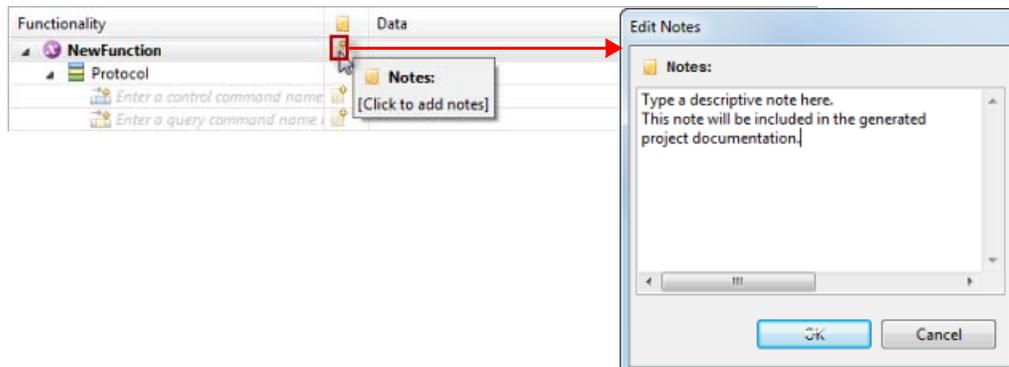

FIG. 74 New Function - Entering a descriptive Note
4. To add a note to describe the custom function, click on the *Notes:* icon to open the *Edit Notes* dialog. The note entered here will be added to the generated documentation (FIG. 74):